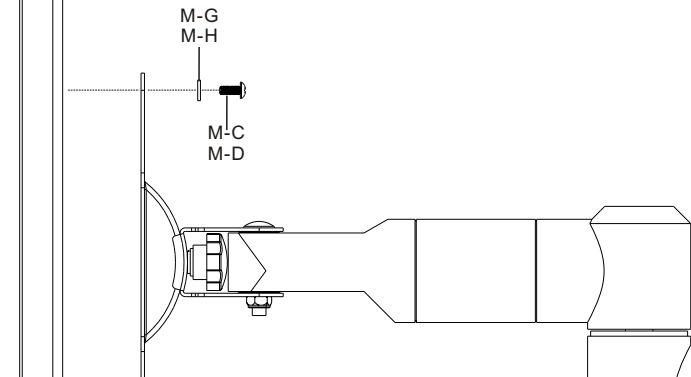
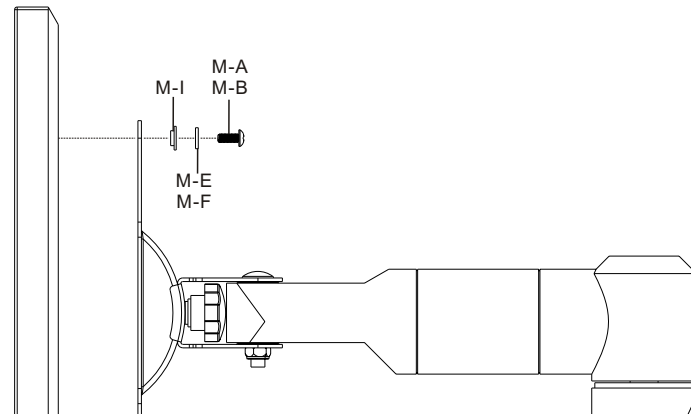

fig. 4.1
fig. 4.2
- Find the appropriate VESA, attach the adapter plate to the back of the screen using the appropriate combination of screws, washers, as shown in fig. 4.1 and fig. 4.2.